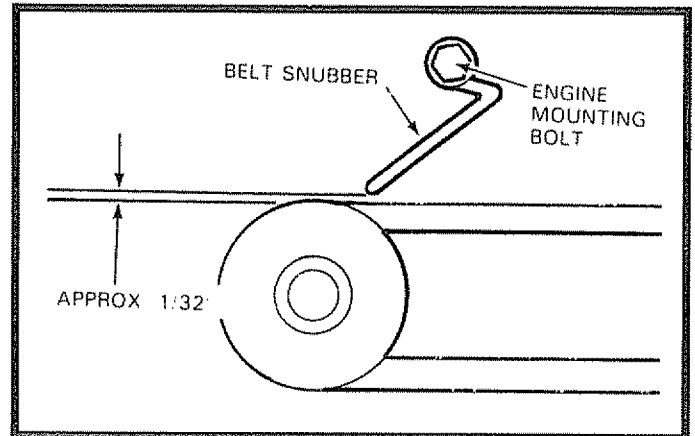

FIG. 25
- To install new Belt, slip Belt over Blade and into Engine Pulley. Readjust Belt Snubber and tighten Bolt (See Fig. 25 on page 18).